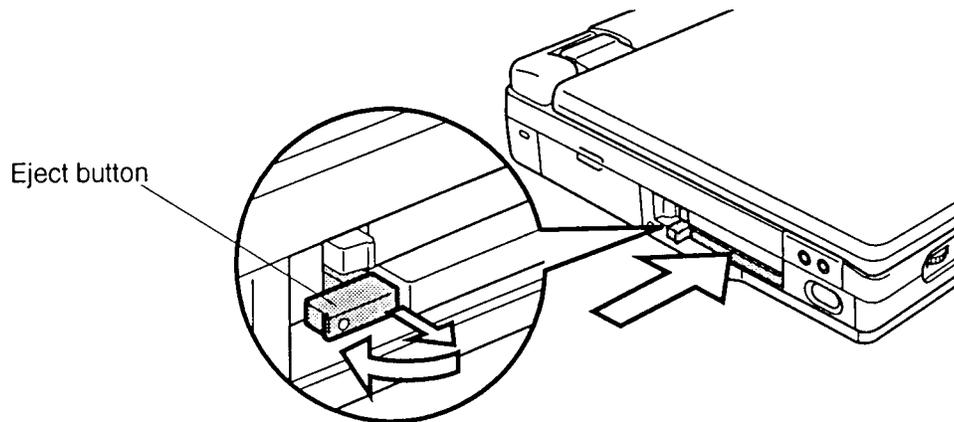

Figure 4-5 Opening the PCMCIA slot cover
2. A pair of flaps protects the PCMCIA slot. Insert the PCMCIA card through these flaps as shown in Figure 4-5.